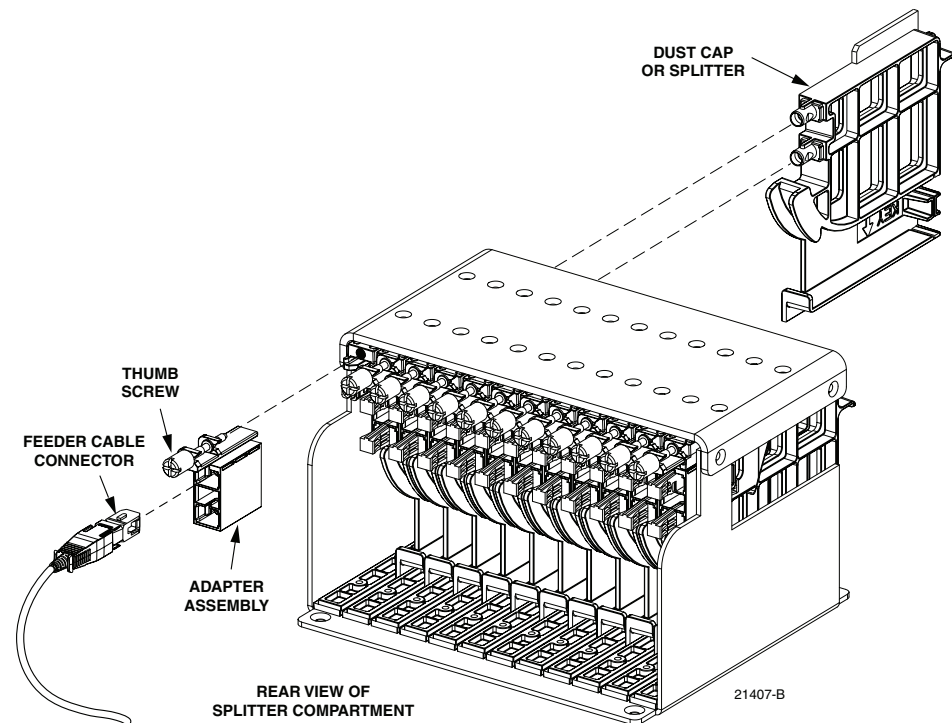

Figure 49. Splitter Compartment Adapter Replacement - Typical Compartment
3. Remove the feeder cable connector(s) from the rear side of the broken adapter assembly as shown in Figure 49 and install a dust cap on the connector(s).